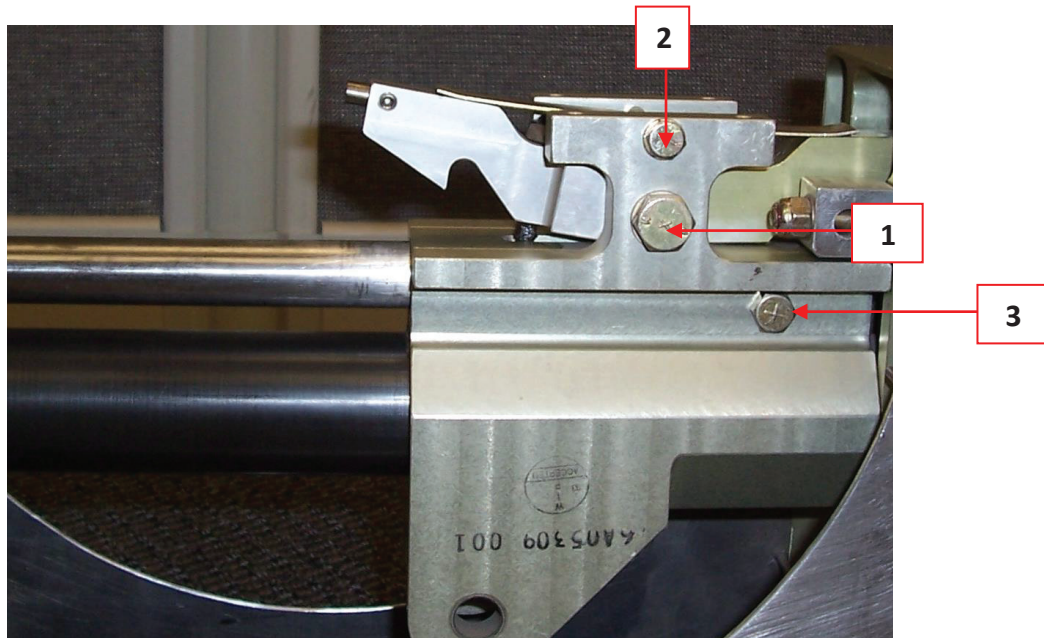

FIGURE 1
2. Remove the main ram catch bolt (Item 3, Figure 1). Lift the down lock and the ram will slide out.
MAKE SURE NOT TO OVER-TIGHTEN THE TROLLEY BOLT (Item 1&2, Figure 1). THE LOCKING LATCHES SHOULD MOVE FREELEY AFTER THE BOLTS ARE SNUG.